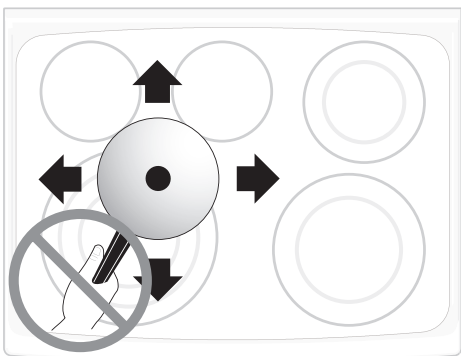

Figure 48: Do not slide pans
- Slide anything metal or glass across the cooktop (Figure 48).